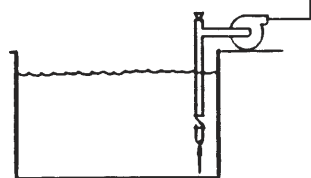

Figure 3
3. Refer to Figure 3. Pump mounted above liquid level. It is recommended that a vertical check valve or foot valve be installed in pump suction. Solution can then be poured into suction line by removing plug in suction tee or by pouring into discharge line. Before pump is started, the entire suction line and pump body must be filled with liquid.